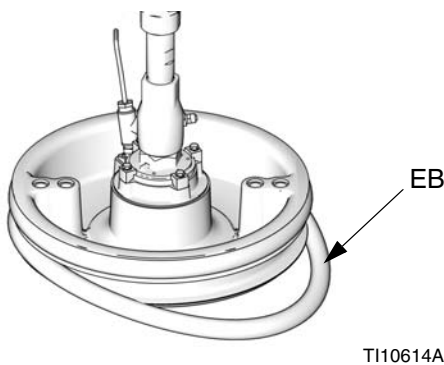

FIG. 16
1. Using a wooden or plastic tool to prevent damage to the wiper (EB), clean all material from seal grooves.
2. *Working from the bottom*, angle one wiper (EB) over back of platen. See FIG. 16.
3. Insert wiper (EB) in top groove and run front of wiper into groove.
4. *55 gallon wiper only*: Insert second wiper (EB) in lower groove and run front of wiper into groove.